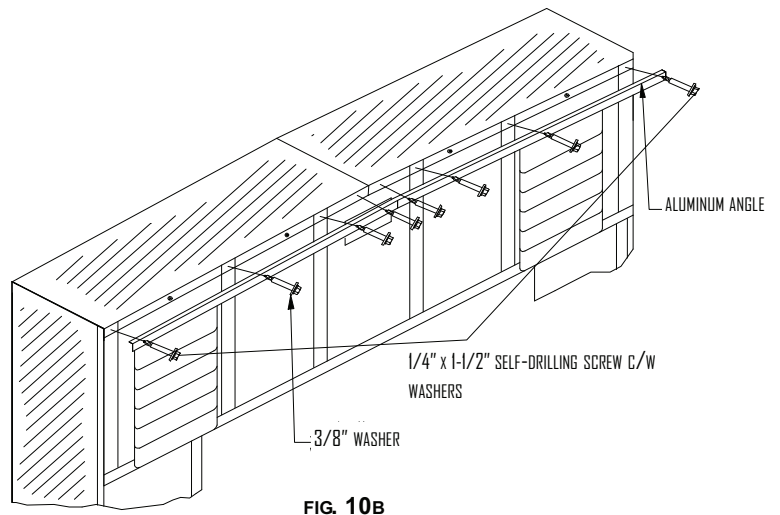

FIG. 10B
- Insert 1/4" self-drilling screws and 3/8" washers into holes (Fig. 10b).